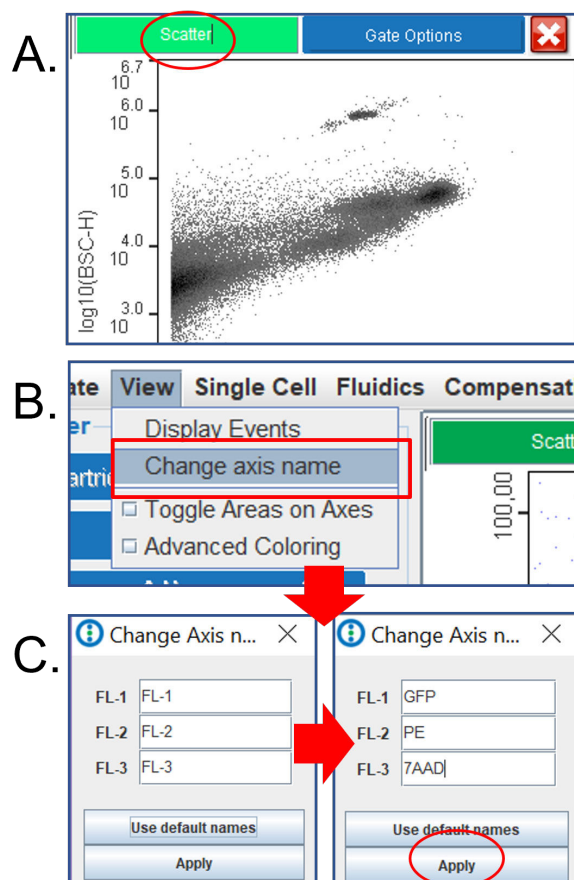

Figure 32. Changing plot and axis name.
1. Type the new plot name in the green box situated in the top left corner of the plot (Fig. 32 A).
1. In the software main menu, select the “View” tab to access the “Change axis name” window (Fig. 32 B).
3. Click “Apply”. The new axis names will automatically load in all the existing and new plots (Fig. 32 C).